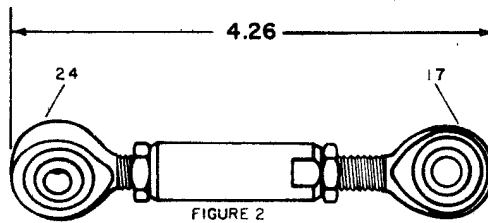

FIGURE 2
1. Preliminary Adjustment (Ref. Fig. 2)
- a. Loosen check nuts and adjust rod end (17) with right-hand thread until the threads just cover the inspection hole in the barrel.
- b. Adjust rod end (24) to get an overall dimension of approximately 4.26 inches.